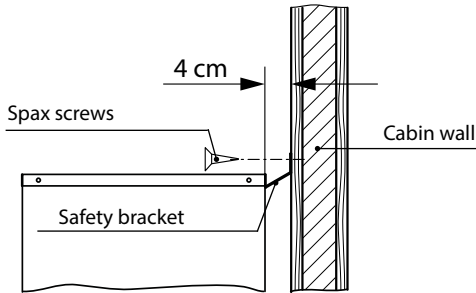

Fig. 3
- Push the safety bracket under the heater cover in the middle of the reverse side and affix to the cabin wall using the two spax screws (see fig. 3)